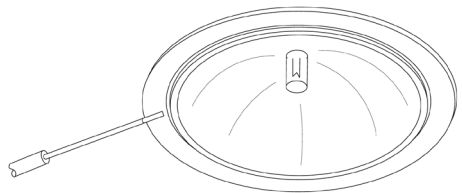

fig. 5
**Do not remove** the entire fixture (socket) as this is very difficult to reinstall. Gently pry the bulb from the fixture using a soft instrument such as a toothpick. Steel instruments will scratch the surface (refer to figure 5).